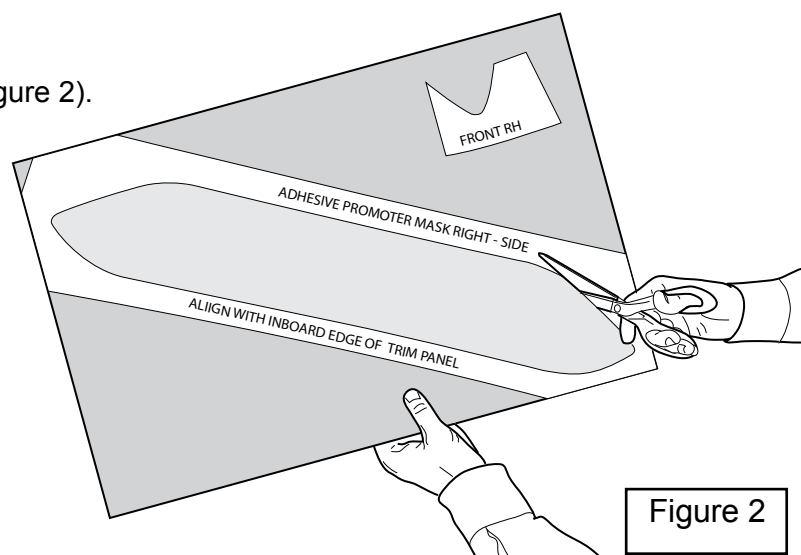

Figure 2
- A. Use scissors to cut out templates (Figure 2).